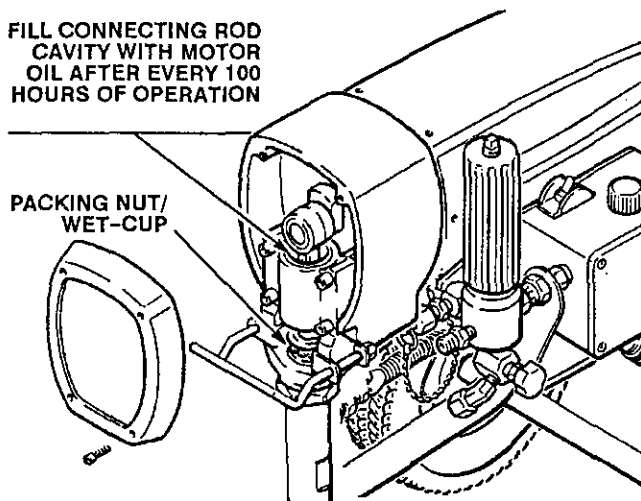

Fig 10-2
1. **Check the packing nut/wet-cup daily.** Relieve the pressure. Keep the packing nut/wet-cup 1/3 full with TSL at all times to help prevent fluid buildup on the piston rod and premature wear of packings. Tighten the packing nut just enough to stop leakage. Overtightening may cause binding and excessive packing wear. Use a screwdriver and light hammer to adjust the nut. See Fig 10-2.
3. **Fill the connecting rod cavity** with motor oil every 100 hours of operation. Relieve pressure. Remove the front cover. See Fig 10-2.